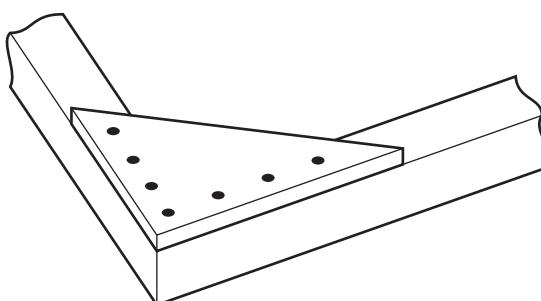

Fig. 2
- 2** Fig. 2 shows a method of jointing in a framework.